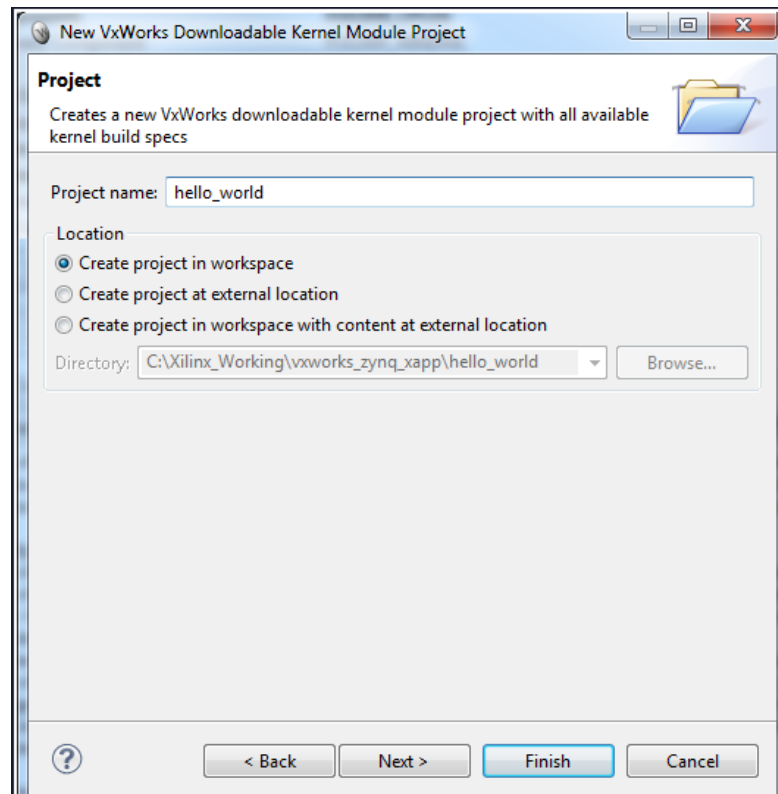

Figure 14: New Kernel Module Project
2. Click **Next** and enter a project name; for example, **hello_world**, (Figure 14, page 18), then press **Finish**.